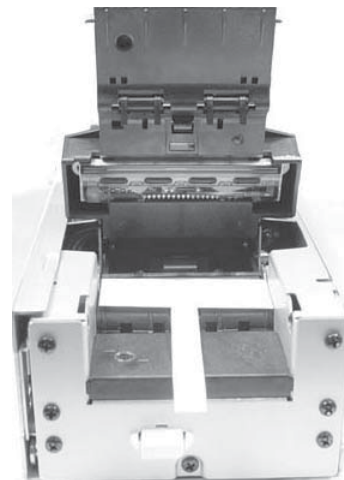

Figure 2.
4. Place the white calibration paper (Part No. 501-000045) over the barcode and double-note sensors (see Fig. 2).